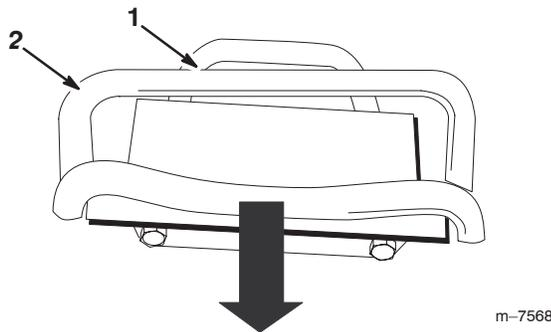

Figure 33
3. Pull straight back on the traction control so the front of the control contacts the reference bar (Fig. 33).